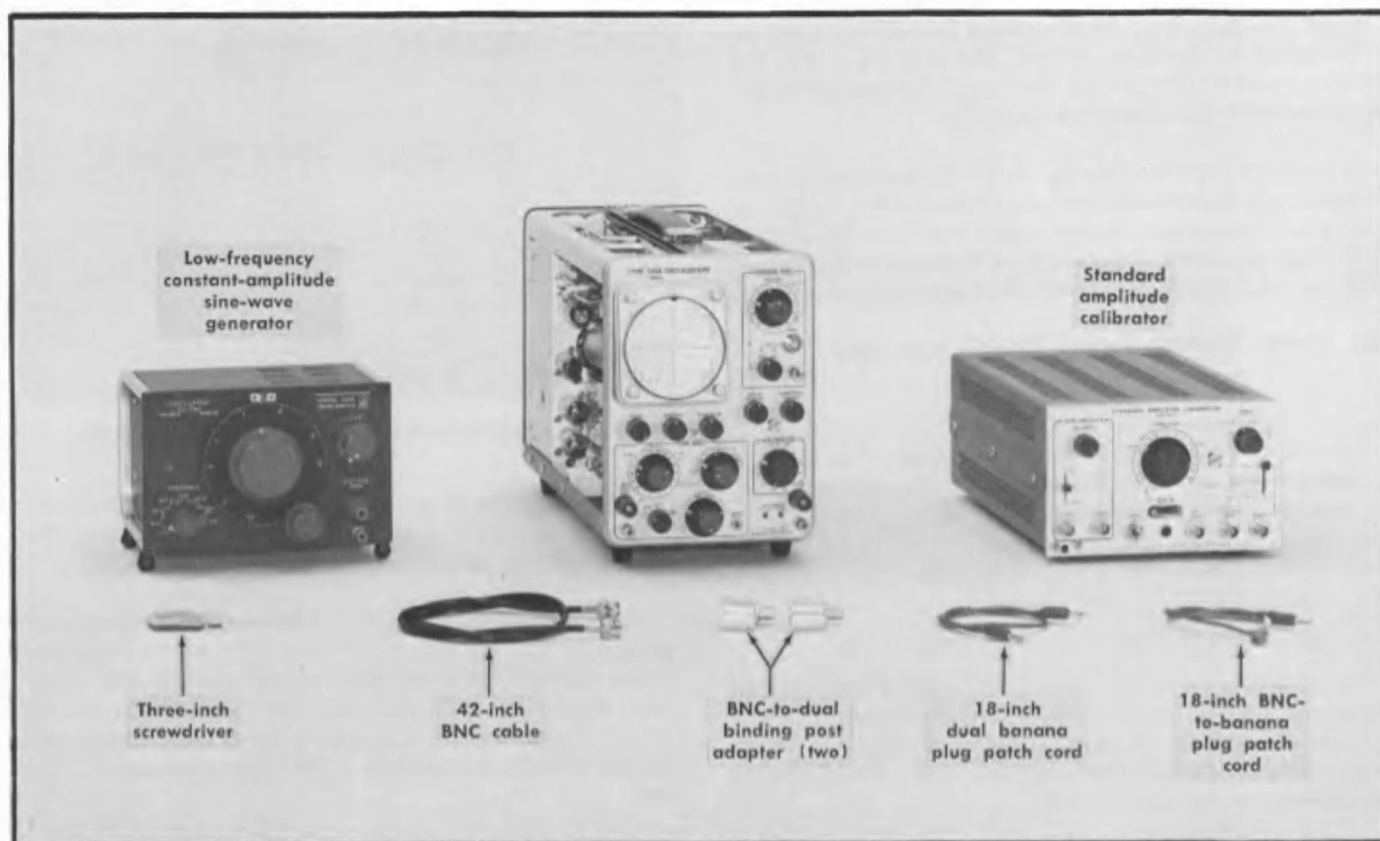

Fig. 5-19. Equipment required for steps 38 through 42.
a. Equipment required for steps 38 through 42 is shown in Fig. 5-19.